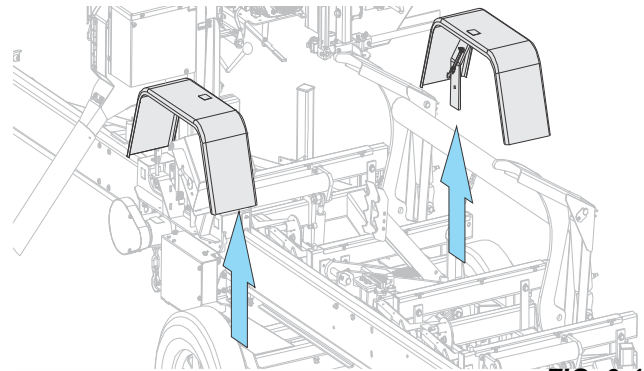

FIG. 3-1
2. Release the fenders and lift up to remove the fenders. **See Fig. 3-1.**
7. Remove the fenders by lifting them out of the slots. **See Fig. 3-1.**